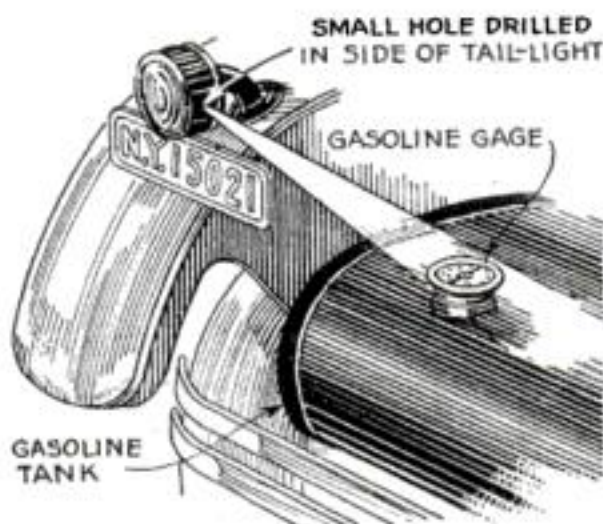

Fig. 2. A small hole drilled in side of tail-light illuminates gas gage on tank for night reading.
**T**HE experience of getting stuck on the road at night with an empty gas tank often is due to inability to read the gage on the tank owing to lack of light. A remedy for this trouble is shown in Fig. 2. If there is no spare tire or other intervening object between the tail-light and the gage, simply drill a small hole in the side of the tail-light, so that a beam will be projected directly on the dial. If you are careful to get the hole in exactly the right place, it can be very small. Try a
**RUSSELL MARTIN**, of Turners Falls, Mass., wins this month's \$10 prize for his suggestion for illuminating the gasoline gage, shown in Fig. 2. Each month **POPULAR SCIENCE MONTHLY** awards \$10, in addition to regular space rates, for the best idea sent in for motorists. Other contributions used are paid for at the usual rates.